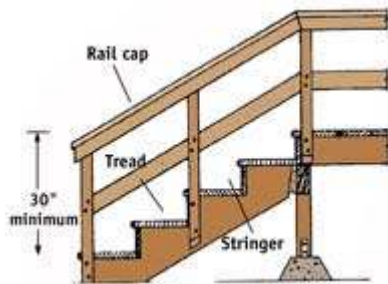

FIG. 3 - The components of a railing. From the Sunset book, *Decks*, © Sunset Publishing Corporation
- **The Railing Assembly** (Fig. 3) consists of posts, a cap rail and vertical balusters between each post. 4x4 is the most common post material with a 2x4 handrail. Codes regulate the overall height of the railing assembly (usually 30" to 34") and may specify a maximum width for the handrail.